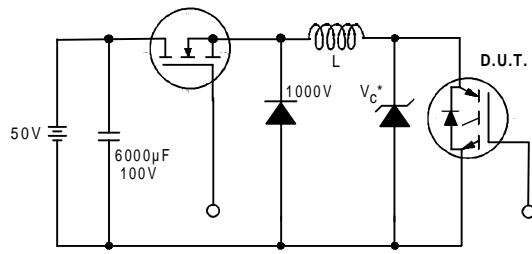

Figure 19. Clamped Inductive Load Test Circuit
- ② $V_{CC}=80\% (V_{CES})$, $V_{GE}=20V$, $L=10\mu H$, $R_G=23\Omega$ (figure 19)
- ③ Pulse width $\leq 80\mu s$; duty factor $\leq 0.1\%$.
- ④ Pulse width $5.0\mu s$, single shot.
- ⑤ When mounted on 1" square PCB (FR-4 or G-10 Material).